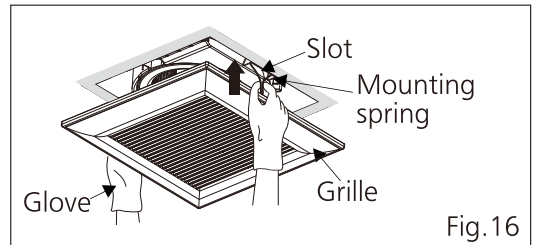

Fig. 16
5. For model FV-0810VSS1 please reinstall grille. (Fig.16)